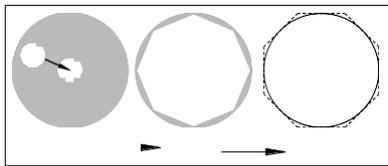
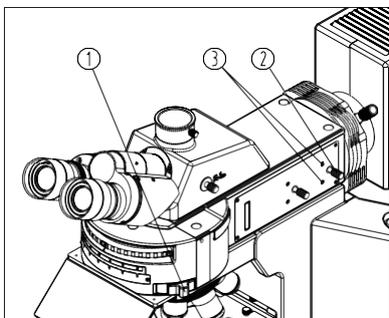
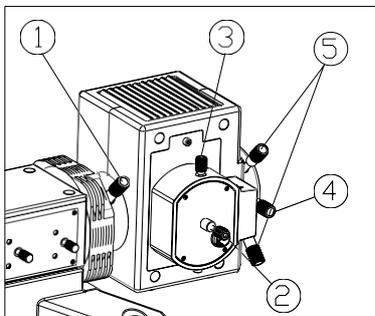

Fig. 21
Fig. 22
Fig. 23
- (1) Rotate the turntable, to turn the fluorescence filter B or G into the light path. (If there is no fluorescence filter B or G, use another fluorescence filter.) (See Fig. 21)
- (2) Rotate the objective nosepiece, to turn the 10X objective into the light path.
- (3) Push the fluorescence flashboard block ① to the position "O", to open the light path.
- (4) Focus the slide on the stage, and adjust it to be clear.
- (5) Pull the field diaphragm adjusting pole ③ to the outermost to open the field diaphragm to the smallest, while push it to the innermost to the largest.
- (6) Observe through eyepiece to find image of field diaphragm.
- (7) Adjust two field diaphragm centering screws ② on the side of illuminator by a inner hexagon spanner, to move the image to the center of view field.
- (8) Open the field diaphragm gradually. If the image of field diaphragm is just inscribed to the view field, it means the field diaphragm had been centered. (See Fig. 22)
- (9) In actual use, please open the field diaphragm a little to make it ex-scribed with view field in order to obtain better image.
- (1) Rotate the turntable, to turn the fluorescence filter B or G into the light path. (If there is no fluorescence filter B or G, use another fluorescence filter.) (See Fig. 23)
- (3) Put the fluorescence flashboard block ① to position "O", to open the light path.
- (5) Pull the aperture diaphragm pole ② to the outermost, to open the aperture diaphragm to the smallest.
- (6) Take off one eyepiece, replace it with the CT (Centering Telescope), and insert it into the observation tube. Adjust the CT to find the image of aperture diaphragm in the view field.
- (7) Adjust the two aperture diaphragm centering screws ③ on the side of illuminator by a inner hexagon spanner, to move the image to the center of view field.
- (8) Open the aperture diaphragm gradually, if the image is inscribed with the view field, then it means the aperture diaphragm is rightly centered. (See Fig. 22)
- (9) In actual fluorescence observation, push the aperture diaphragm pole ②, to open the aperture diaphragm to the largest.